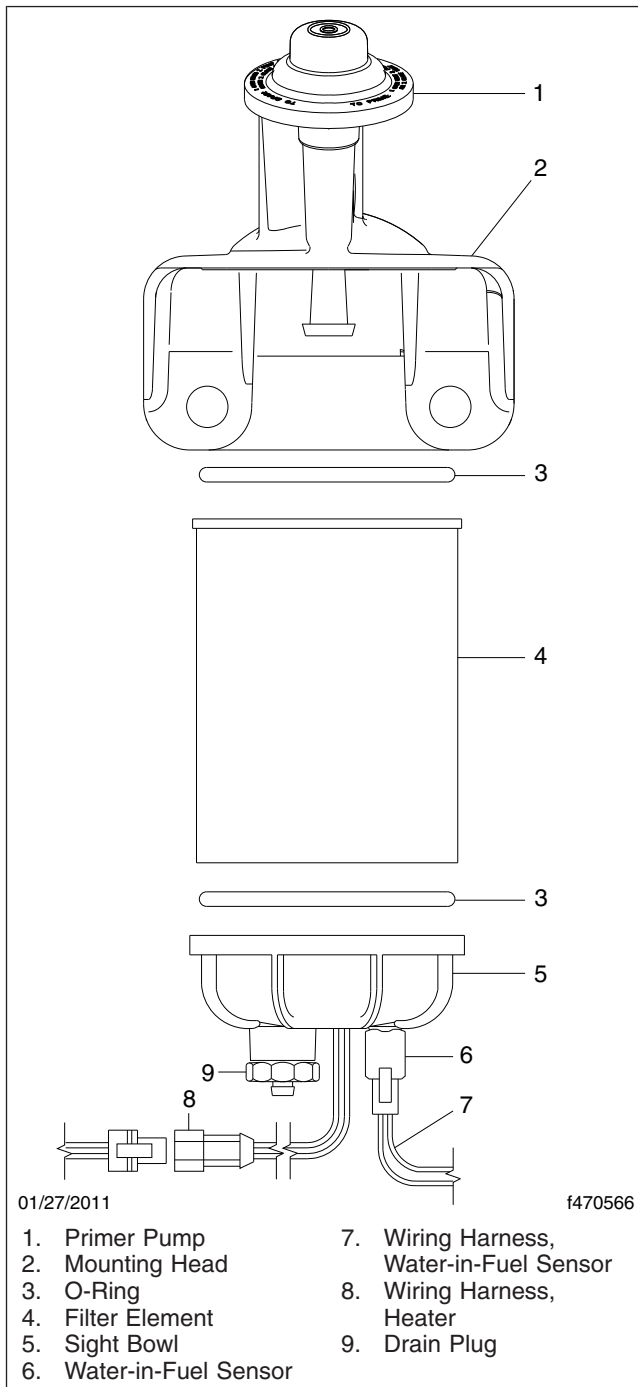

Fig. 1, Alliance Fuel/Water Separator Assembly
5. Disconnect the wiring harnesses from the water-in-fuel sensor and, if equipped, the heater. See Fig. 1.